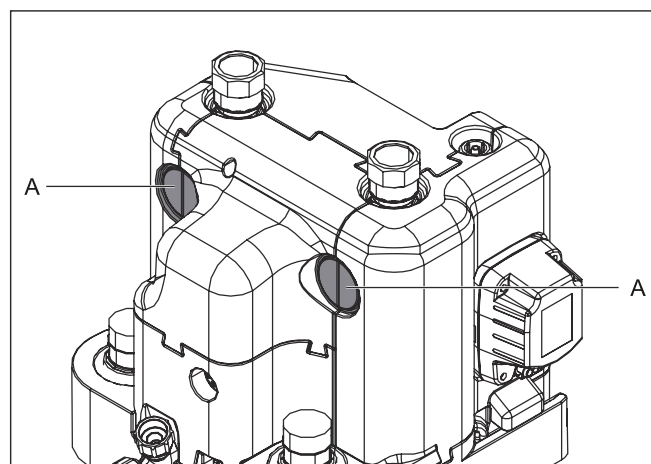

Fig. 4-20 Cut-out in thermal insulation
- 16 Cut out side openings in the thermal insulation (Fig. 4-20, item A) using a suitable tool.